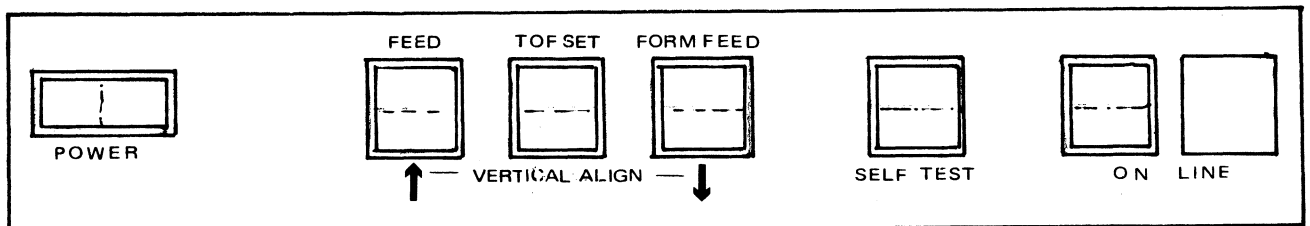

FIGURE 3-1. FRONT PANEL CONTROLS AND INDICATORS
3.2.1 EXTERNAL CONTROLS AND INDICATORS: The following controls and indicators are located on the front panel or external to the printer. (See Figure 3-1.)